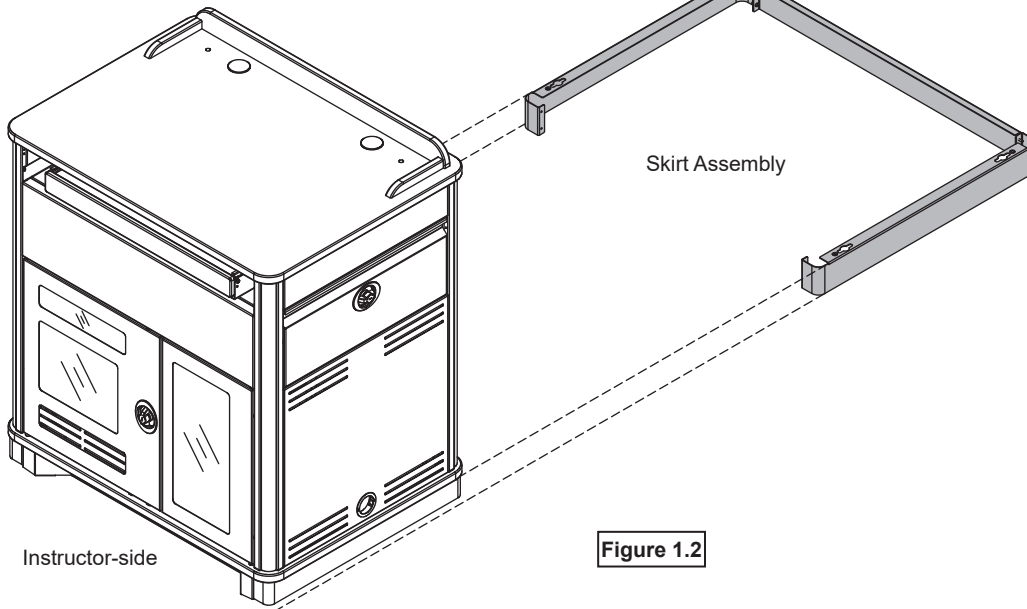

Figure 1.2
2. Move lectern into position over the assembled skirt as shown. **Figure 1.2.**